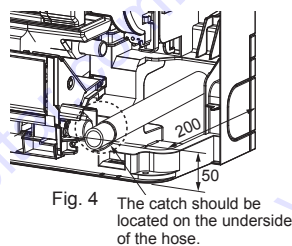

Fig. 4 The catch should be located on the underside of the hose.
- When routing the drain piping, make sure that the drain hose (1) is routed as shown. (Fig. 4)